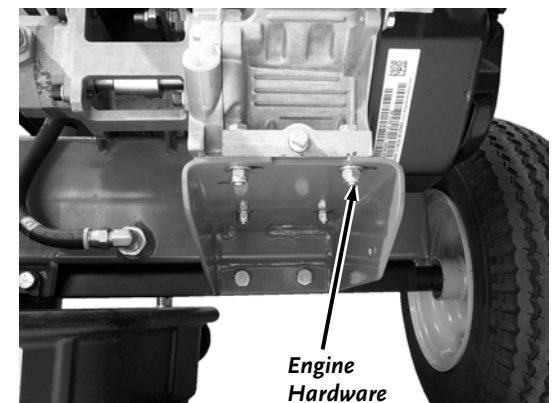

Figure 3
6. Remove the four Bolts, Washers and Locknuts from the Engine Mount with two 1/2" Wrenches and remove the Engine with Pump (**Figure 3**).